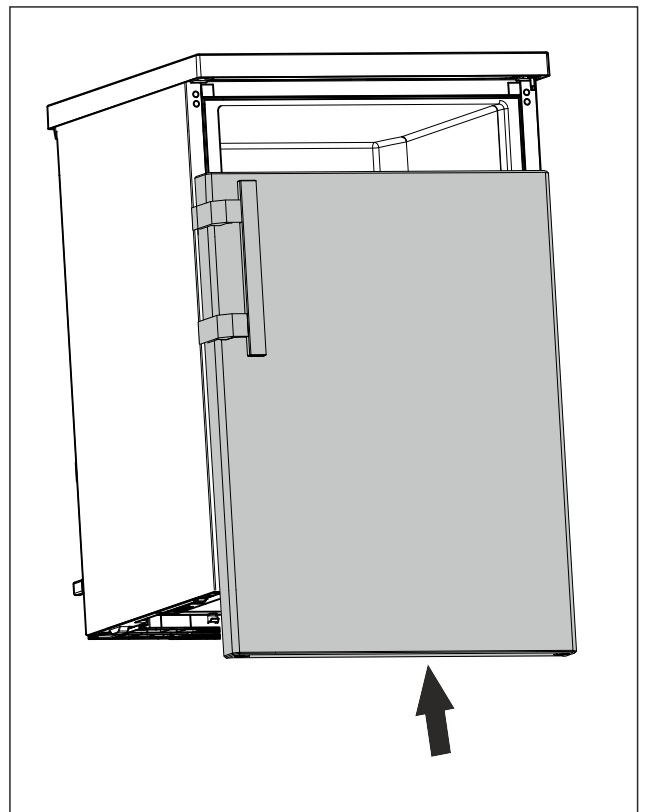

Fig. 23
- ▶ Slide the door onto the upper bolt in closed status. (see Fig. 23)